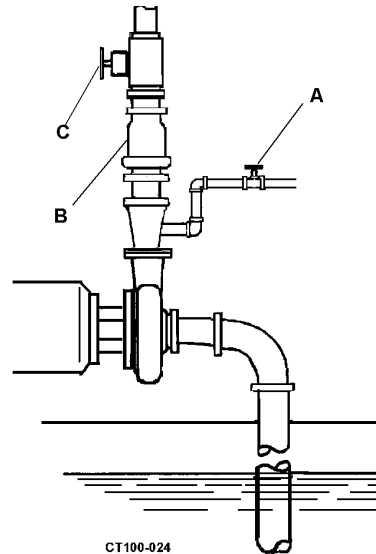

Figure 23 - Pump Above Supply
1. Close discharge valve (Figure 23, item C) and open air vents.
2. Open the valve installed in the outside supply line (Figure 23, item A) until liquid flows from vent valves.
NOTE: Use a check valve system (Figure 23, item B) to keep supply line and pump casing flooded with liquid. Otherwise the pump must be primed before each operation.